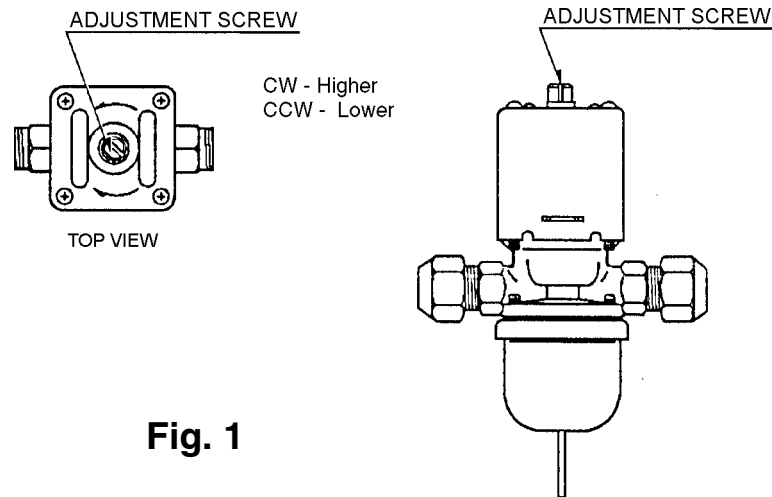

Fig. 1
- 2) Rotate the adjustment screw by using a flat blade screwdriver, so that the pressure gauge shows 270 PSIG or the thermometer reads 104–115° F, 5 minutes after a freeze cycle or icemaking process starts. When the pressure exceeds 270 PSIG, or the condenser drain temperature exceeds 115° F, rotate the adjustment screw counterclockwise. See Fig. 1.